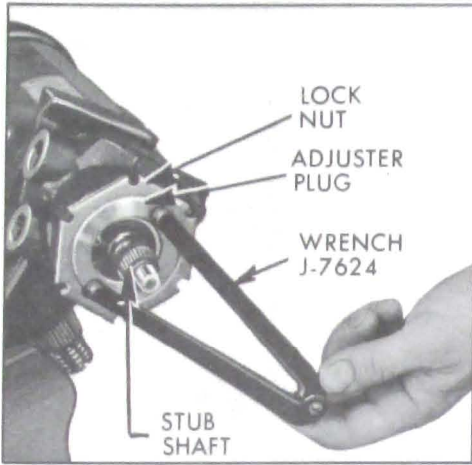

Figure 8-42—Removing Adjuster Plug Assembly
3. Loosen adjuster plug lock nut and remove adjuster plug using adjustable spanner wrench J-7624. See Figure 8-42.